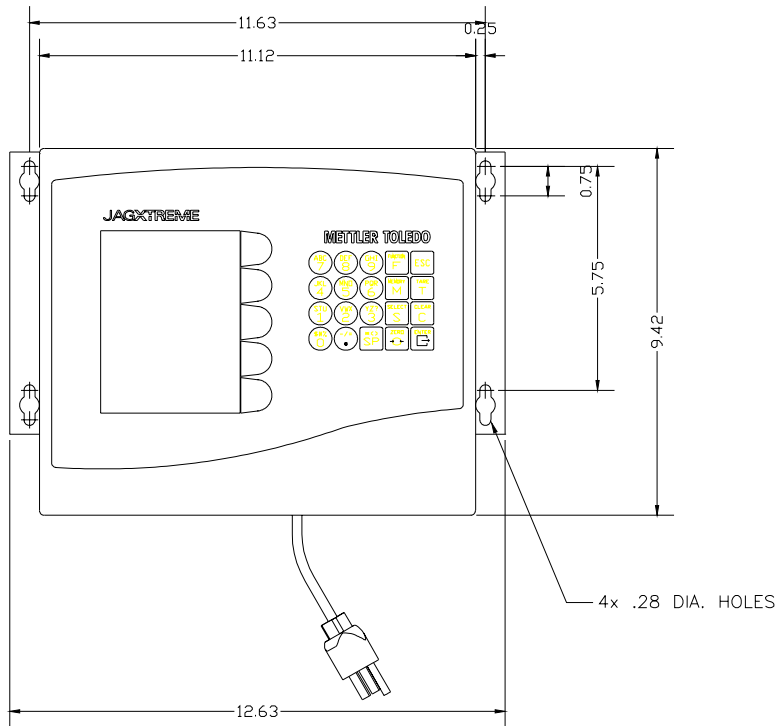

Figure 1
2. Mount the brackets using the four stainless steel hex head screws supplied with the unit. Refer to Figure 1 on the next page and note the correct positioning of the brackets. The slotted holes must protrude beyond the enclosure and the bracket tabs must point toward the front as shown in the illustration on the next page.